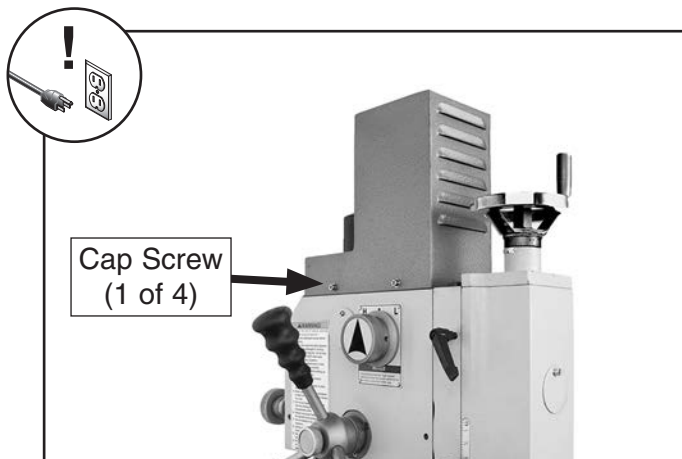

Figure 46. Location of motor cover cap screws.
2. Uninstall motor cover by removing cap screws (see **Figure 46**).